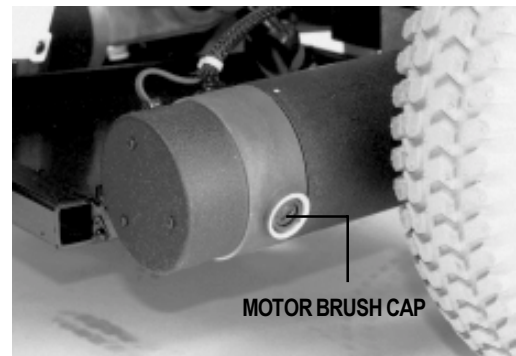

Figure 43. Motor Brush Cap
2. Unscrew the motor brush caps. See figure 43.